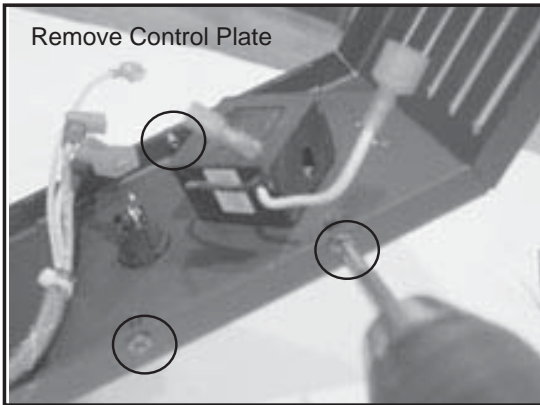

Figure 20.1
5. Remove the control plate by removing the three Phillips head screws. Remove the blank plate on the left side of the housing in the same manner. Swap the locations of the control plate and blank plate and re-install all of the fasteners. **Figure 20.1**
10. See **Figure 20.1** as a reference to connect the remaining wires as shown.